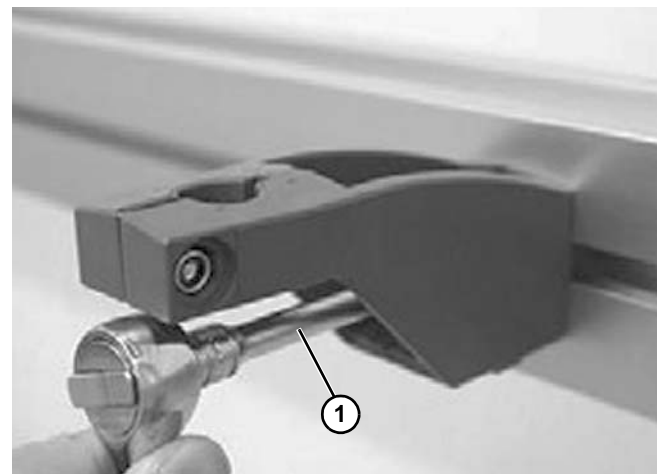

Figure 101
2. Attach the bracket onto conveyor beam and tighten with a socket wrench (Figure 101, item 1). Install upper and lower caps.